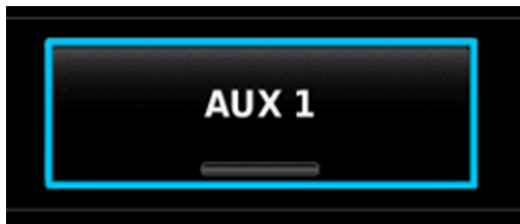

Figure 4: AUX 1 deselected
9. Select Audio Panel and deselect AUX 1 as shown in Figure 4